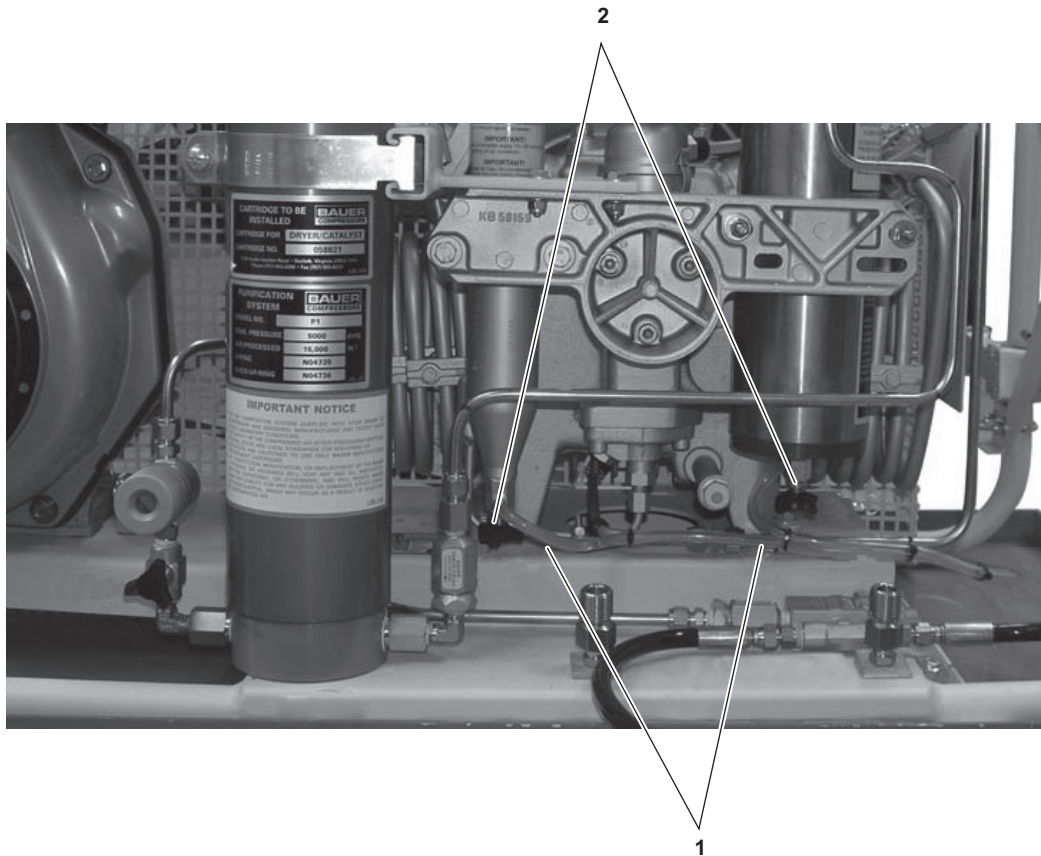

Figure 6-8. Drain Valves and Tygon® Tubing
- (1) Remove the Tygon[®] tubing (figure 6-8, item 1) from the drain valves (figure 6-8, item 2).
- (2) Loosen and remove the drain valves (figure 6-8, item 2) using a 11/16 wrench.
- (1) Attach the drain valve (figure 6-8, item 2) to the bottom of the separator. Tighten with a 11/16 inch wrench until snug.
- (2) Attach the Tygon® tubing (figure 6-8, item 1) to the drain valve (figure 6-8, item 2).